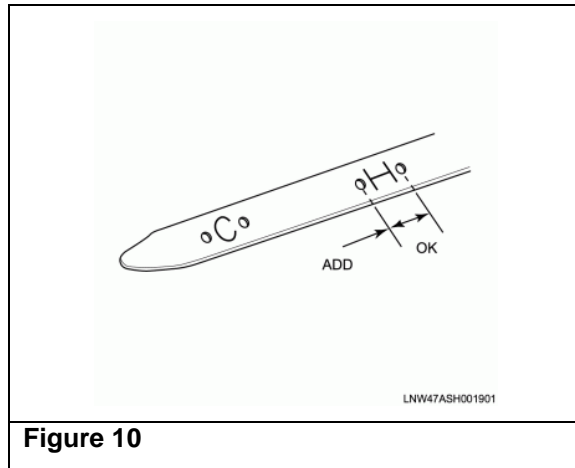

Figure 10
12. Recheck the ATF level with the transmission level gauge which should now be within the "HOT" range. Adjust if necessary (see Figure 10). Clean the transmission level gauge and reinsert it into the gauge tube.